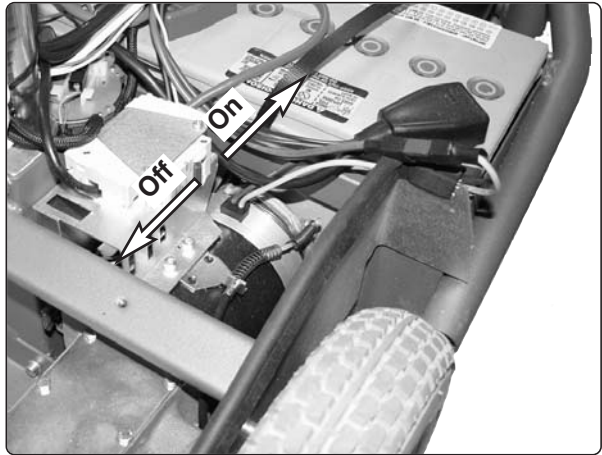

Fig.49. Circuit breaker/Battery isolator.
You will not normally need to change the circuit breaker, as you can reset it when it has tripped. It is located on the left side of the chassis, next to the seat tube, see fig. 49.
3. Put the circuit breaker to the “OFF” position, see fig. 49.
11. Put the circuit breaker to the “ON” position, see fig. 49.